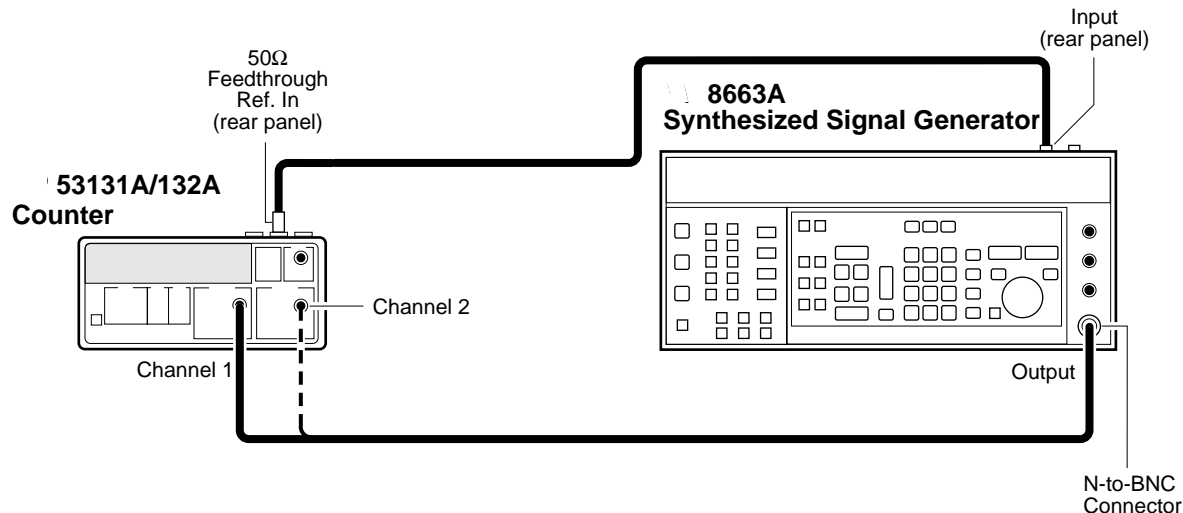

Figure 1-8. Channels 1 and 2 Frequency Accuracy Test Setup
- 1 Connect the equipment as shown in Figure 1-8 with the signal generator connected to Channel 1 of the Counter.